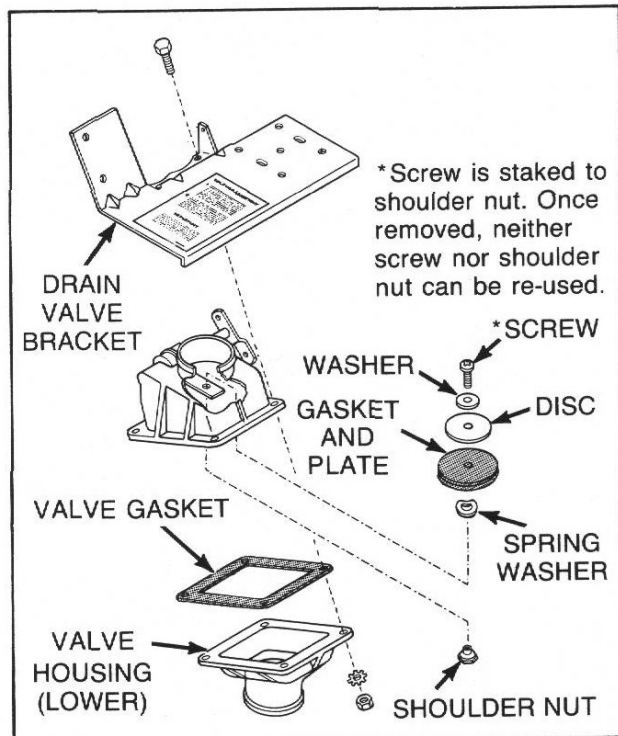

Figure 19
**NOTE:** Refer to Figure 19 for drain valve assembly sequence.